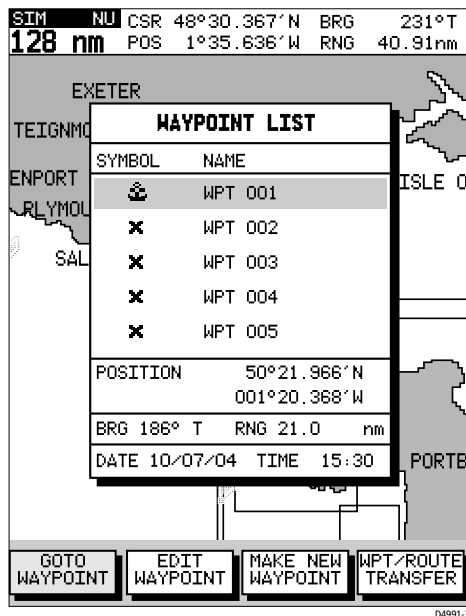

Figure 5-1: Waypoint List Display
3. Select **WAYPOINT LIST** and press **ENTER** to display the Waypoint List. The Waypoint List and associated function bar are displayed (see *Figure 5-1*).